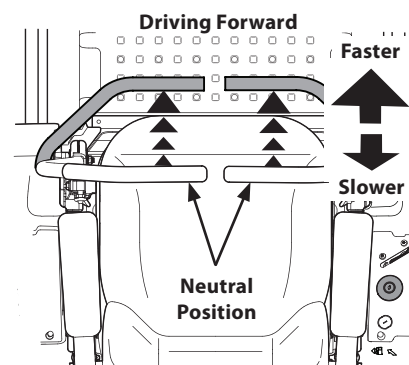

Figure 3-5
1. Slowly and evenly move both drive control levers forward. The tractor will start to move forward. See Figure 3-5.